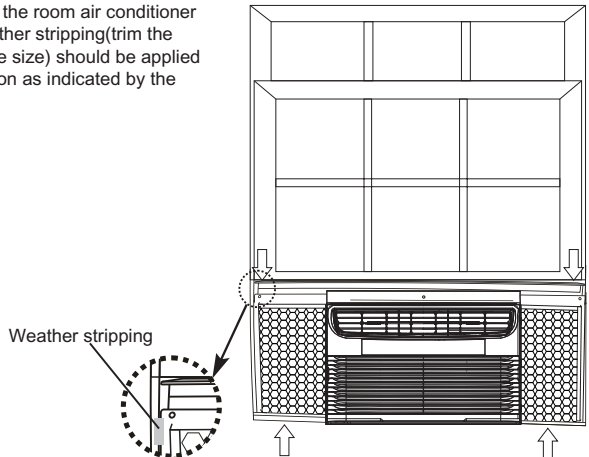

FIG. 25
- 11 In order to minimize air leaks between the room air conditioner and the window opening, suitable weather stripping(trim the provided weather stripping into suitable size) should be applied in case of any gaps found at the location as indicated by the arrows in Fig. 25.